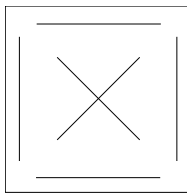

FIGURE 1-7
- Click the 'Cut Test Pattern' button in the lower right corner to perform a knife depth test as illustrated in Figure 1-7 .